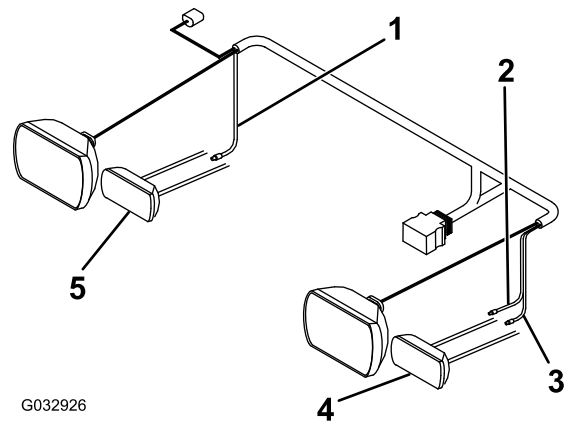

Figure 16
5. Connect the pink wire from the long wire harness to the right turn signal wire using a splice connector (Figure 16).
6. Connect the violet wire from the long wire harness to the left turn signal wire using a splice connector (Figure 16).
7. Connect the yellow wire from the long wire harness to the left park light wire using a splice connector (Figure 16).